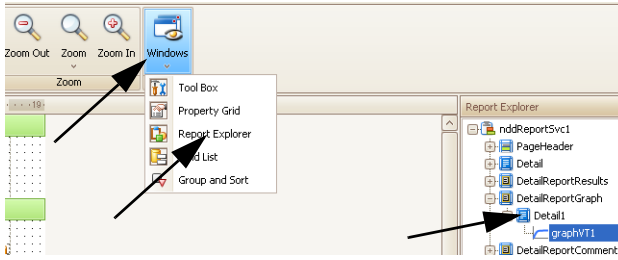

Fig. 10-8 Windows, Report Explorer, Detail Report Graph buttons
- Select **Windows** and then **Report Explorer** (Fig. 10-8).
- Select **Detail Report Graph** (Fig. 10-8).
- Click the small arrow in the upper right corner of the "Detail Report Graph" window (Fig. 10-8).